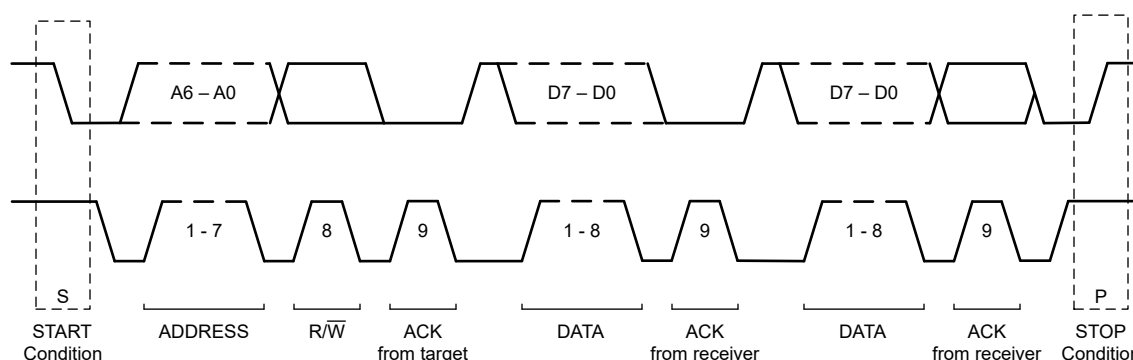

Figure 7-8. I²C Data Transfer Format
Figure 7-8 shows the format of the data transfer. The controller initiates all transactions with the ADS101xL by generating a START (S) condition. A high-to-low transition on the SDA line while SCL is high defines a START condition. The bus is considered to be busy after the START condition.